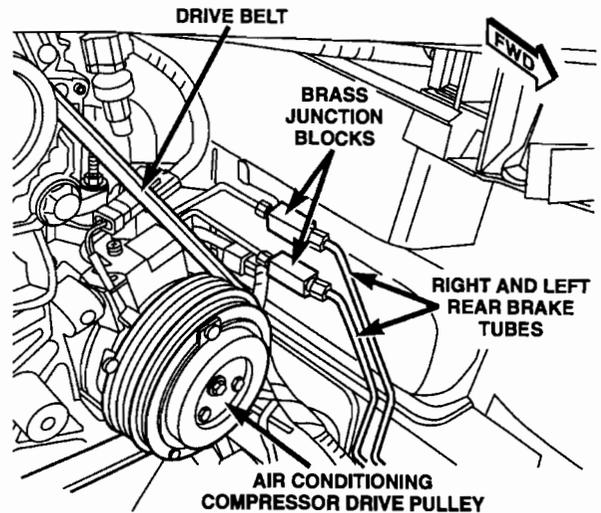

Figure 5
8. Disconnect the brake tube(s) from the brass junction block(s) located next to the left frame rail (Figure 5).
13. Connect the other end of the brake tube(s) to the brass junction block(s) (Figure 5). Hand tighten the tube nut(s).
16. Tighten the brass junction block tube nut(s) to 195 in. lbs. (22 N·m) (Figure 5).